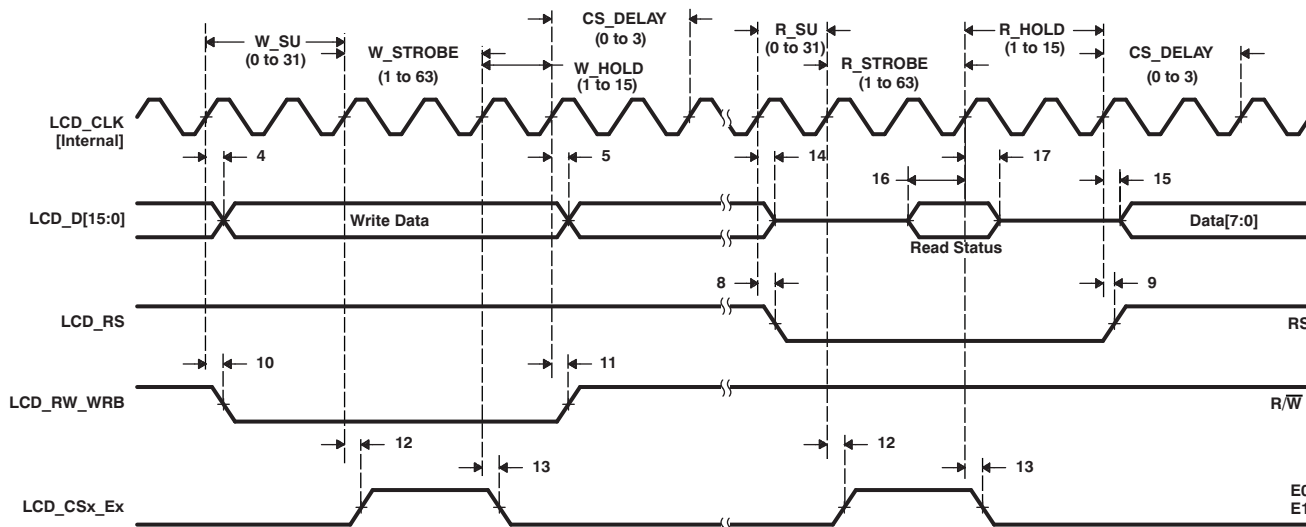
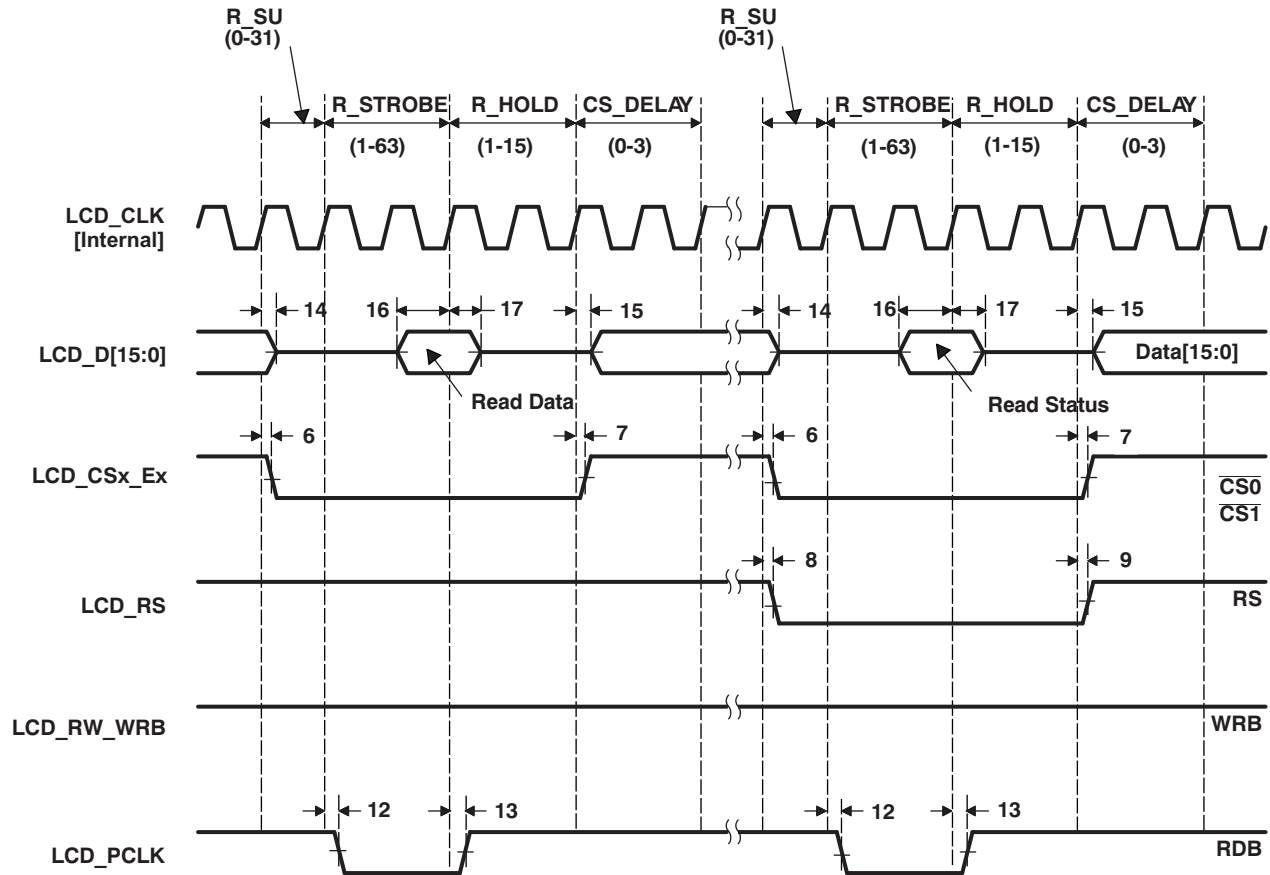

Figure 6-24. Character Display HD44780 Write
Figure 6-31. Micro-Interface Graphic Display 8080 Status
**Table 6-31. Timing Requirements for LCD LIDD Mode(1) (see Figure 6-24 through Figure 6-31)**
(1) Over operating free-air temperature range (unless otherwise noted)
**Table 6-32. Switching Characteristics Over Recommended Operating Conditions for LCD LIDD Mode (see Figure 6-24 through Figure 6-31)**